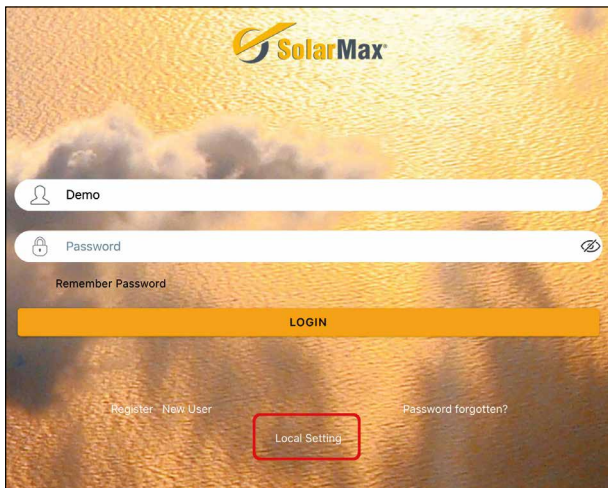

Fig. 19: Start menu at the mobile device for inverter configuration
2. After the connection between the mobile device and the access point of the inverter, start the App MaxLink. Select "Local Setting" (see Fig. 19)., start the App MaxLink. A list of a inverters available for communication is shown